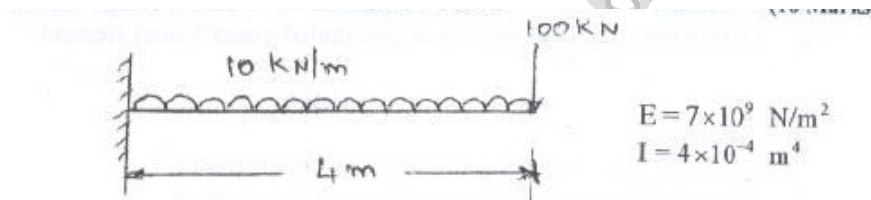

Fig.1
- (a) Determine the maximum deflection in the uniform cross section of cantilever beam shown in Fig.1 by assuming the beam as a single element.